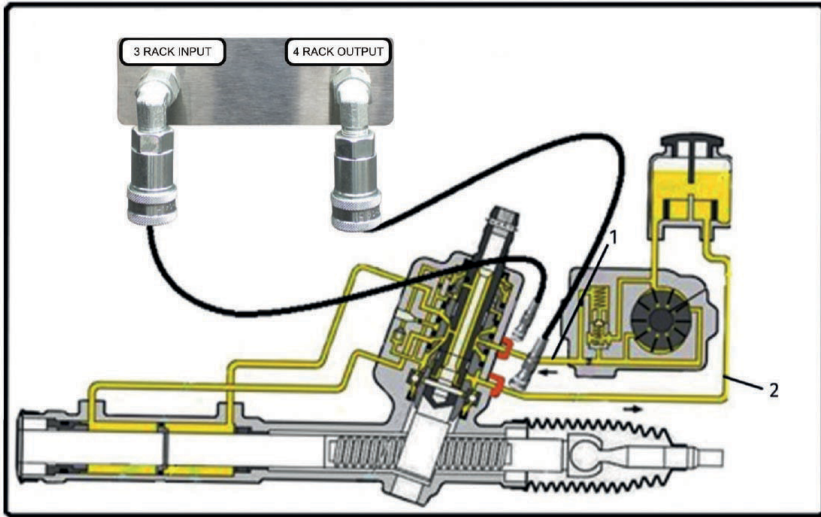

Figure 7: Connecting the steering rack to the bench:
2. Connect the bench to the rack as indicated in Figure 7: